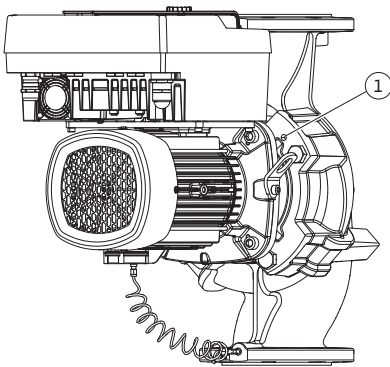

Fig. 98: Pressing off the motor impeller unit via threaded holes
12. For pump type (Fig. III), loosen the screws (Item 29). Use the two adjacent threaded holes (Fig. 98, Item 1) and use suitable screws provided on-site (e.g. M10 x 25 mm). Pull the motor impeller unit off the pump housing.